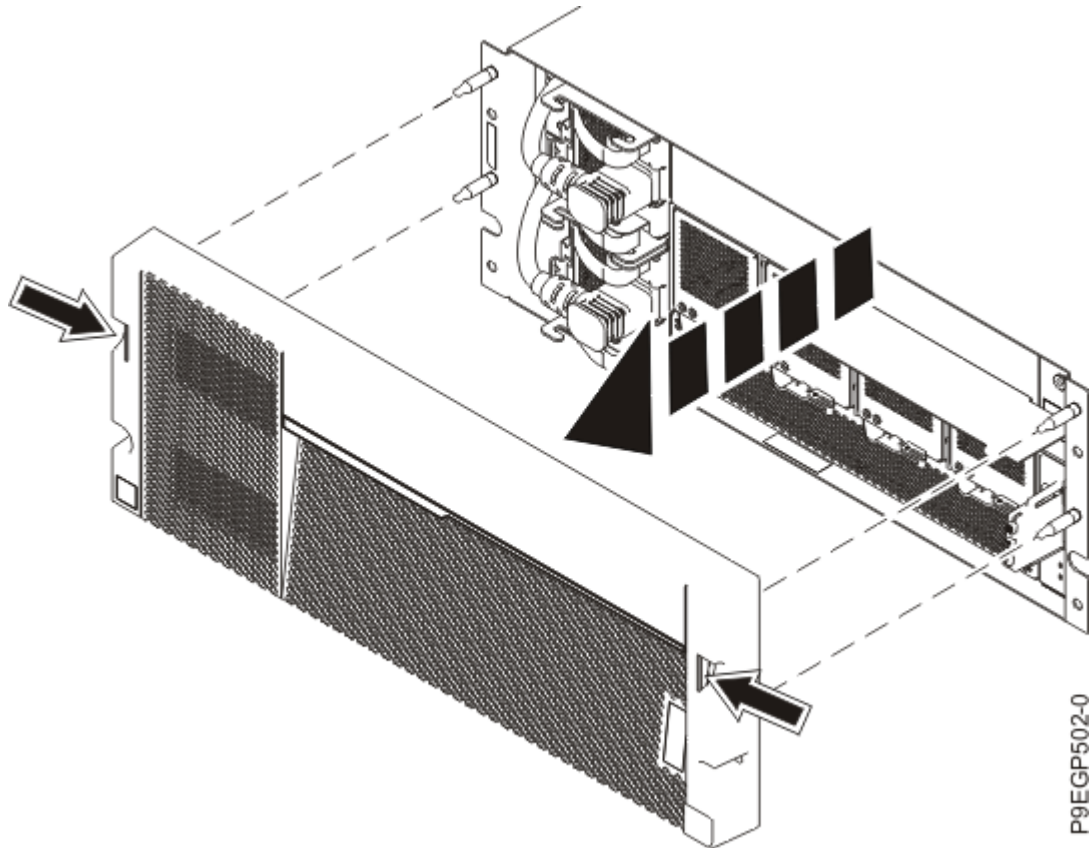

Figure 8. Removing the cover and the service information card
- b. Using the two blue touch points on each side of the drawer, pull the bezel straight out to remove the bezel from the front of the drawer as shown in Figure 8 on page 11.